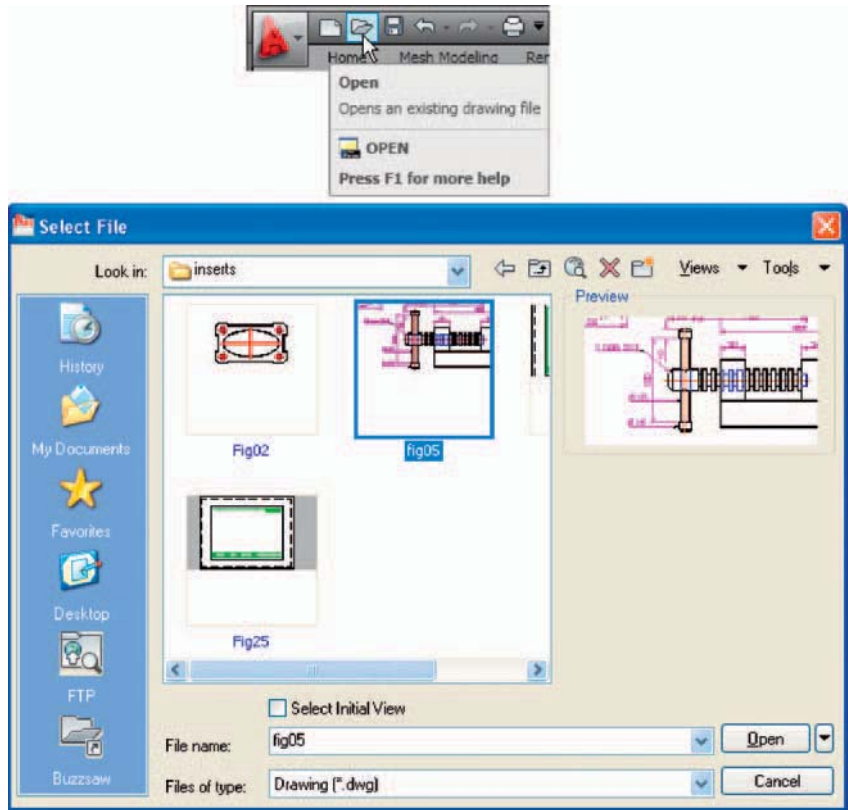

Fig. 1.9 The **Open** icon in the **Quick Access** toolbar brings the **Select File** dialog on screen
- **Quick Access toolbar**: The toolbar at the top right of the AutoCAD window holds several icons, one of which is the **Open** tool icon. A *click* on the icon opens the **Select File** dialog (Fig. 1.9).